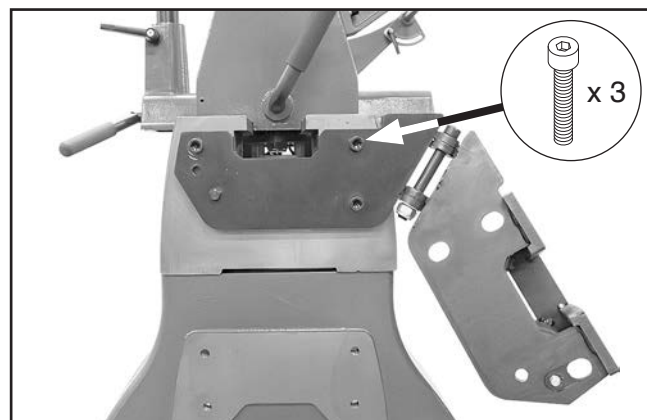

Figure 49. Mounting swing-away bed.
3. Place swing-away bed on right end of bed and secure with (3) M10-1.5 x 25 cap screws (see **Figure 49**).